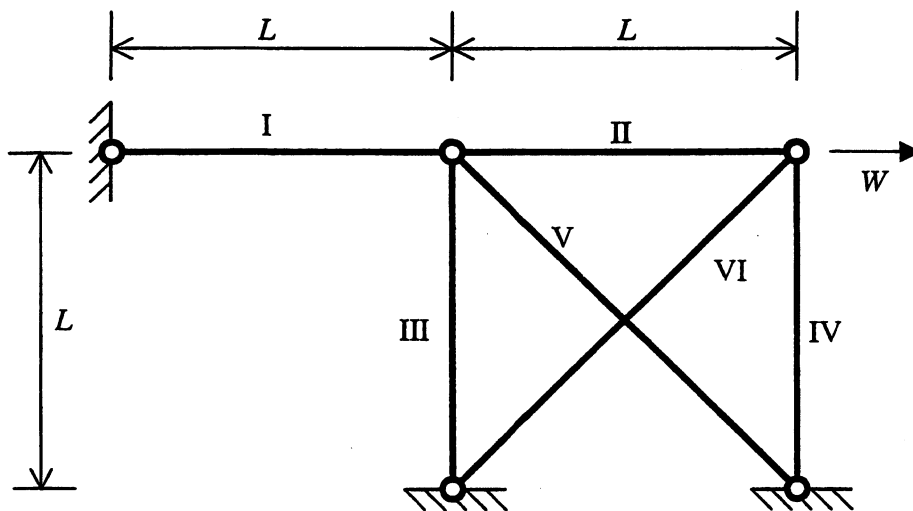

Fig. 1
1 A planar pin-jointed structure has six members, I to VI, as illustrated in Fig. 1. All behaviour may be assumed to be elastic. Each member has axial stiffness EA . The unloaded structure is free of stress and the diagonal bars V and VI are not connected to each other.
- (b) A horizontal force W is applied to the structure, as shown in Fig. 1. Using III and IV as redundant bars:
- (i) find a particular equilibrium solution of bar tensions to the applied load W shown in Fig. 1; [3]